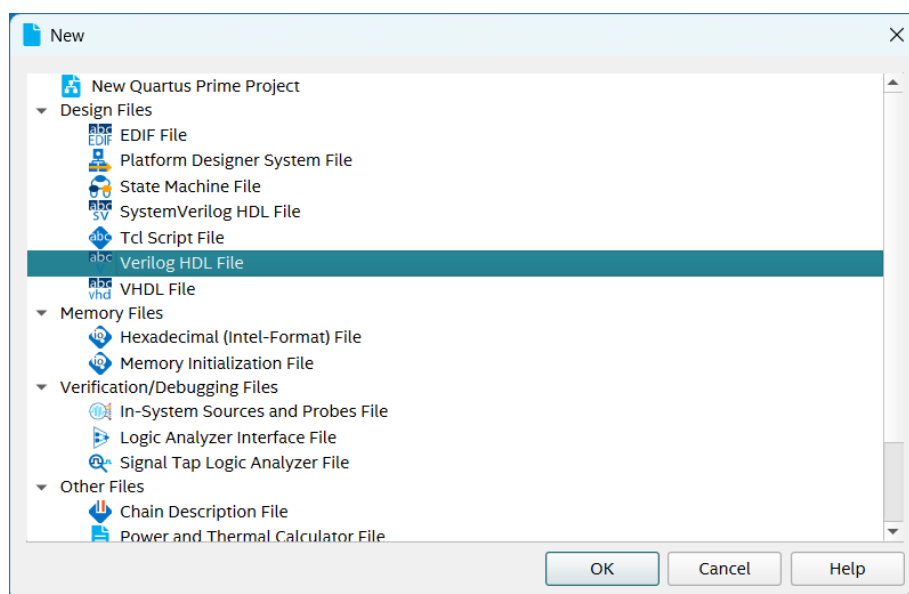
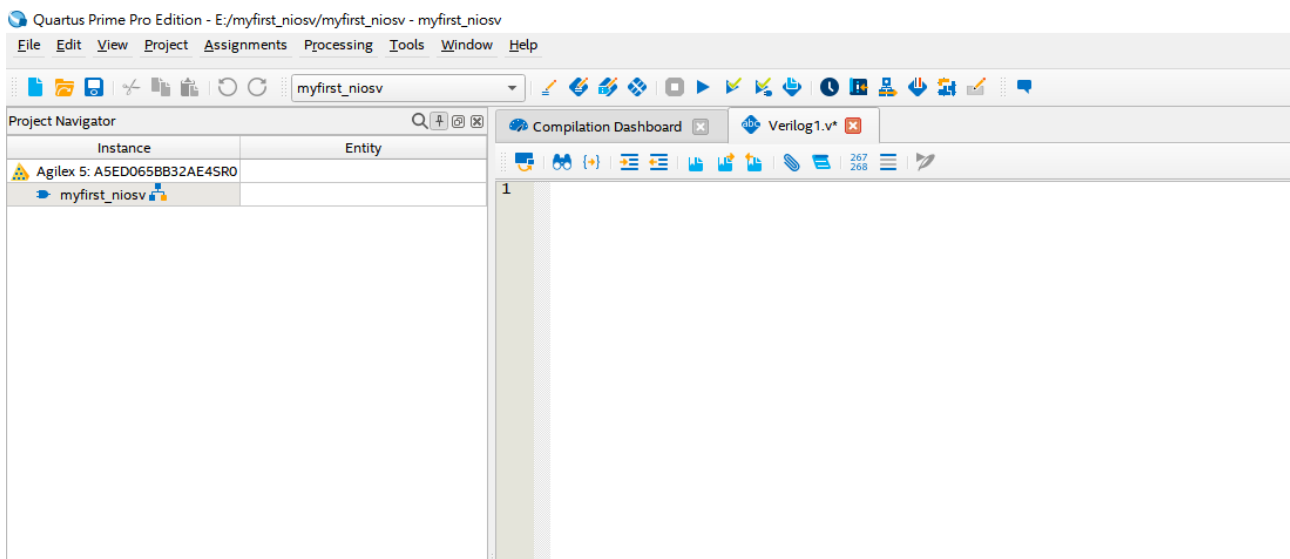

Figure 2-32 New Verilog File
Figure 2-33 A blank verilog file
2. Choose **Verilog HDL File** (Figure 2-32.) and click **OK** to return to the window as shown in Figure 2-33. Figure 2-33 show a blank verilog file.